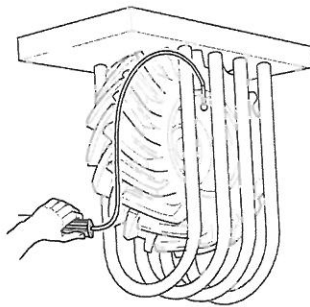

Figure 350.
1. Prepare the wheel. Before you add air to the tyre, make sure it is correctly fitted on the machine or installed in a tyre inflation cage. Refer to Figure 350.